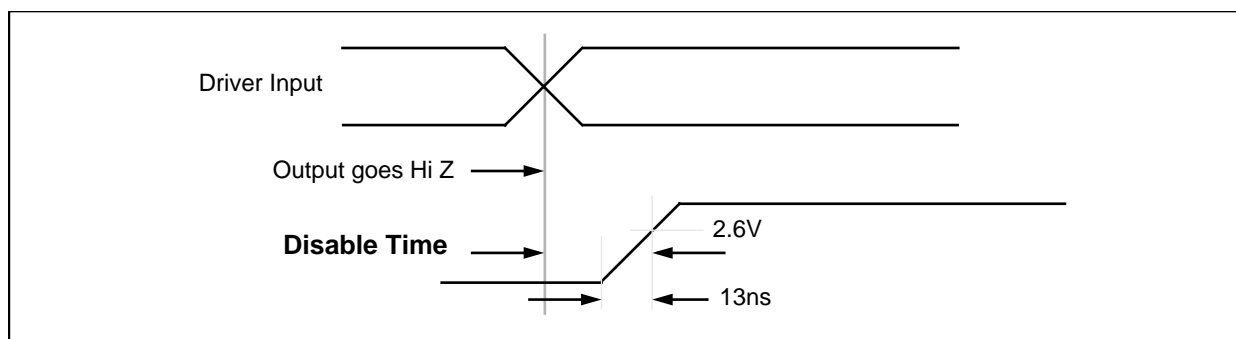

Figure 13-2: Disable times specification
- 4 See  *Figure 13-2: Disable times specification* on page 13-3.